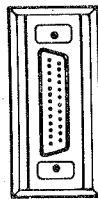

Fig. 3—Identification
- 1 - Set 43 Teleprinter (Fig. 3)